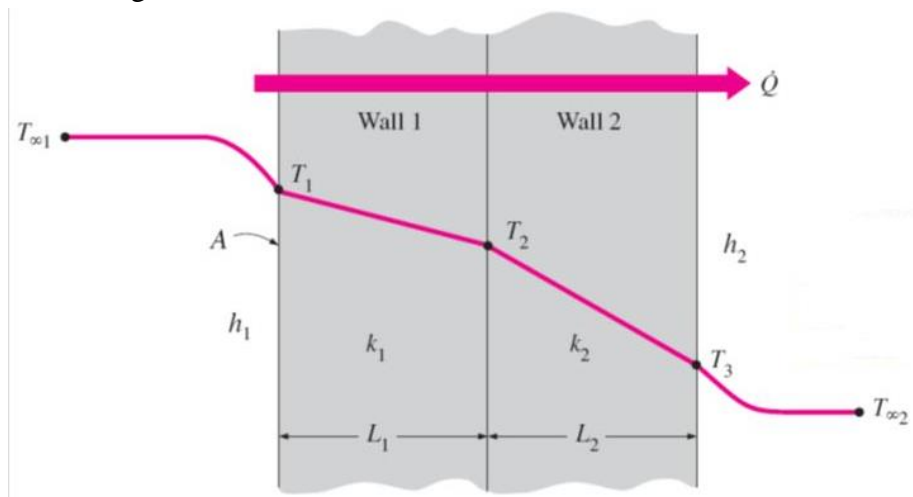

Fig. 1
3. Define fin efficiency. Write down the expression for Universal heat transfer coefficient for the arrangement shown in fig. 1